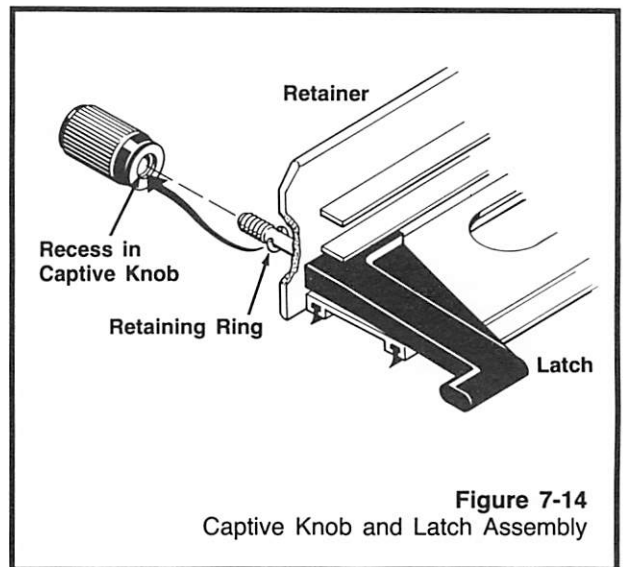

Figure 7-14
3. Insert the shaft of the latch (with retaining ring) through the mounting hole of the retainer (Figure 7-14).